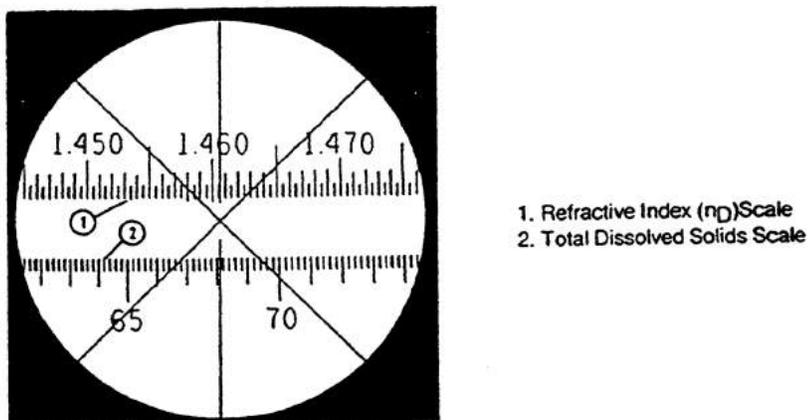

Figure 4.5. Reading the refractive index scale of an Abbé refractometer
- Depress the contact switch (the same switch that you used to turn on the instrument) and read the refractive index of the sample from the top scale that will become visible through the eyepiece (see Figure 4.5).